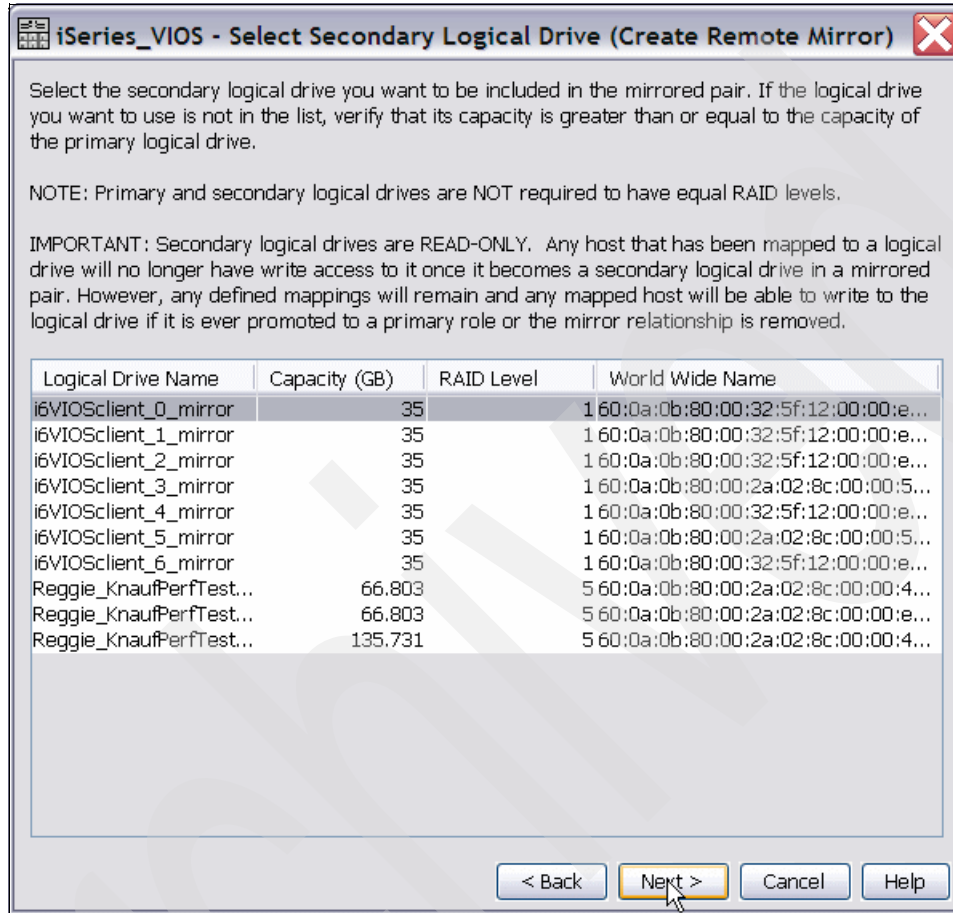

Figure 8-34 Select secondary logical drive
7. In the next window select the secondary logical volume, as shown in Figure 8-34.